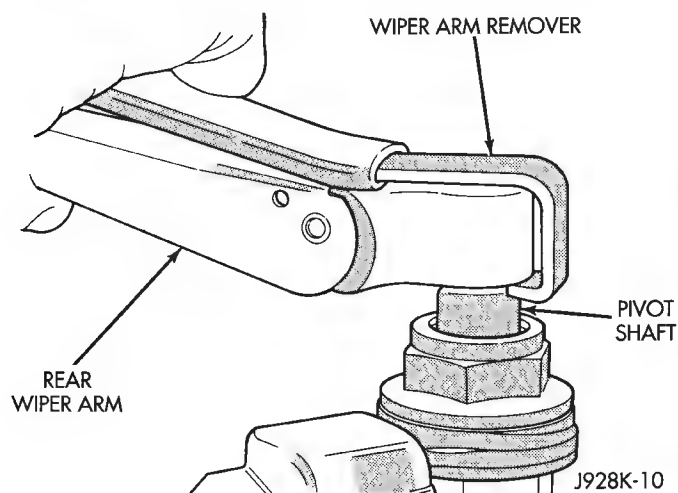

Fig. 6 Liftgate Wiper Arm Remove/Install
(1) Install wiper arm remover, Snap On A192 or equivalent, on wiper arm (Fig. 6). Lift arm and then remove from pivot shaft.